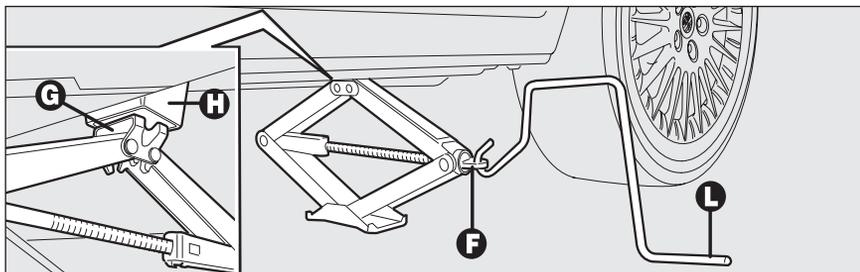

fig. 9
- Operate the device **F-fig. 9** to extend the jack until the top of the jack **G** fits correctly into catch **H**;
- Fit the handle **L-fig. 9** to operate the jack and lift the car until the wheel to be changed is several centimetres off the ground;